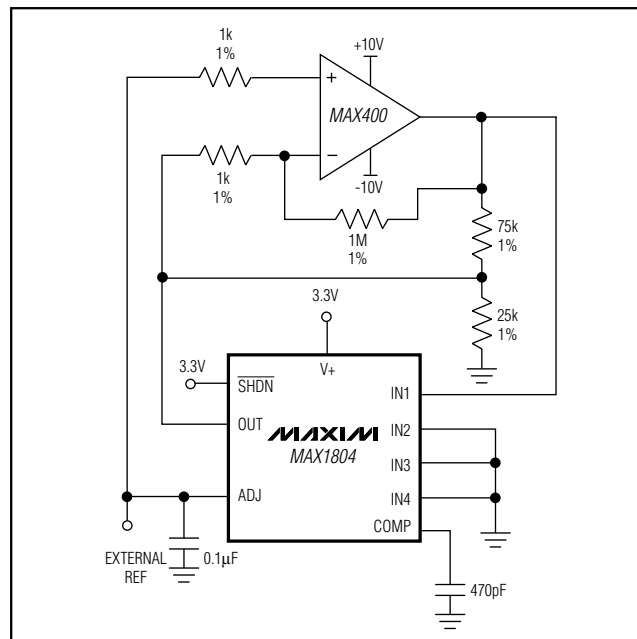

Figure 1. Test Circuit for MAX1804 IN- Regulation Set Point
**NOTE:** Circuit of Figure 1.